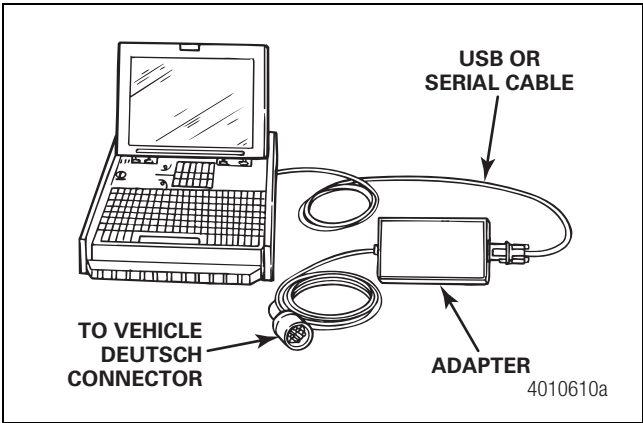

Figure 3.3
- Attach the Deutsch diagnostic cable from the adapter to the vehicle. Figure 3.3.